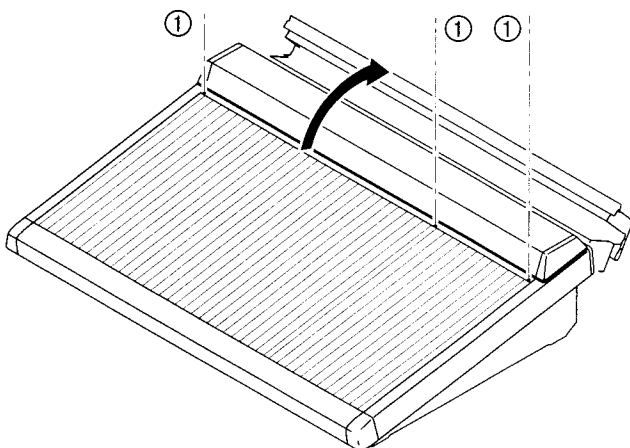

Fig.1
1. Loosen the screws (1) on the front of the meter bridge. The number of screws differs according to the number of input channels. (Fig.1)
3. Open the meter bridge as shown in Fig.1.